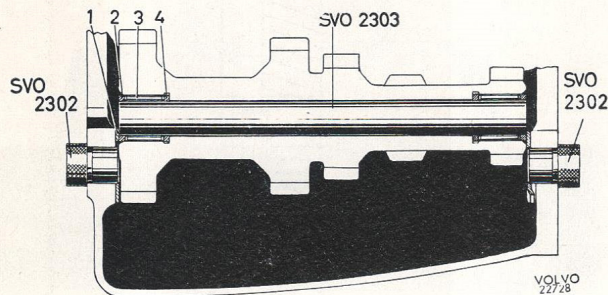

Fig. 36. Fitting the idler gear
- Fix the washers to the housing with grease and guide them up into position with the centering plugs SVO 2302, see Fig. 36. Lay the idler gear in the bottom of the housing.